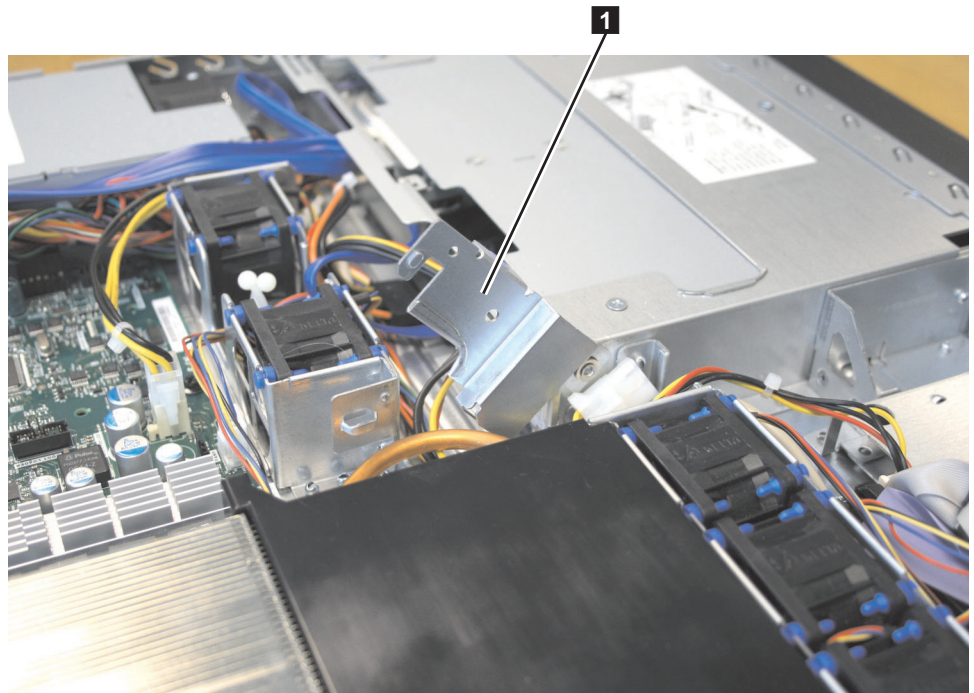

Figure 126. Air deflector for the SAN Volume Controller 2145-8A4 power supply
4. Make sure that the air deflector **1** is in the open position, as shown in Figure 126.